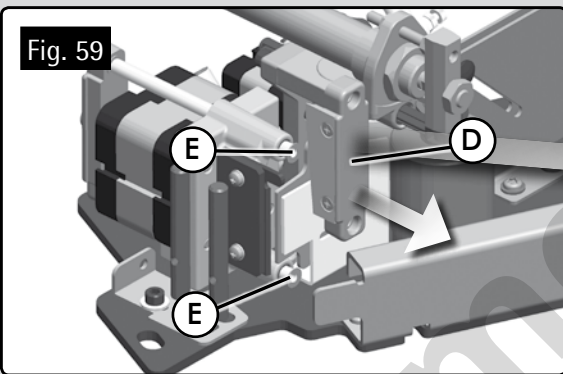

Fig. 59
- Remove the blade block D (Fig. 59), being careful not to lose the washers E (Fig. 59).
- Replace the blade F (Fig. 59), removing the screws G using the service screwdriver H (Fig. 59).